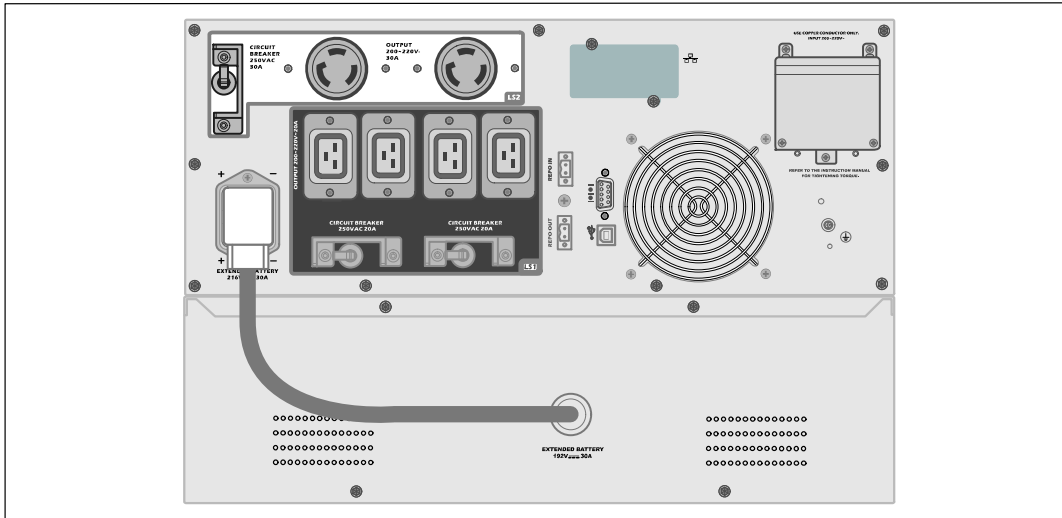

Figure 15. EBM Installation with 5600W OL UPS (208V)
- 1 Plug the EBM cable into the UPS battery connector (see Figure 15).